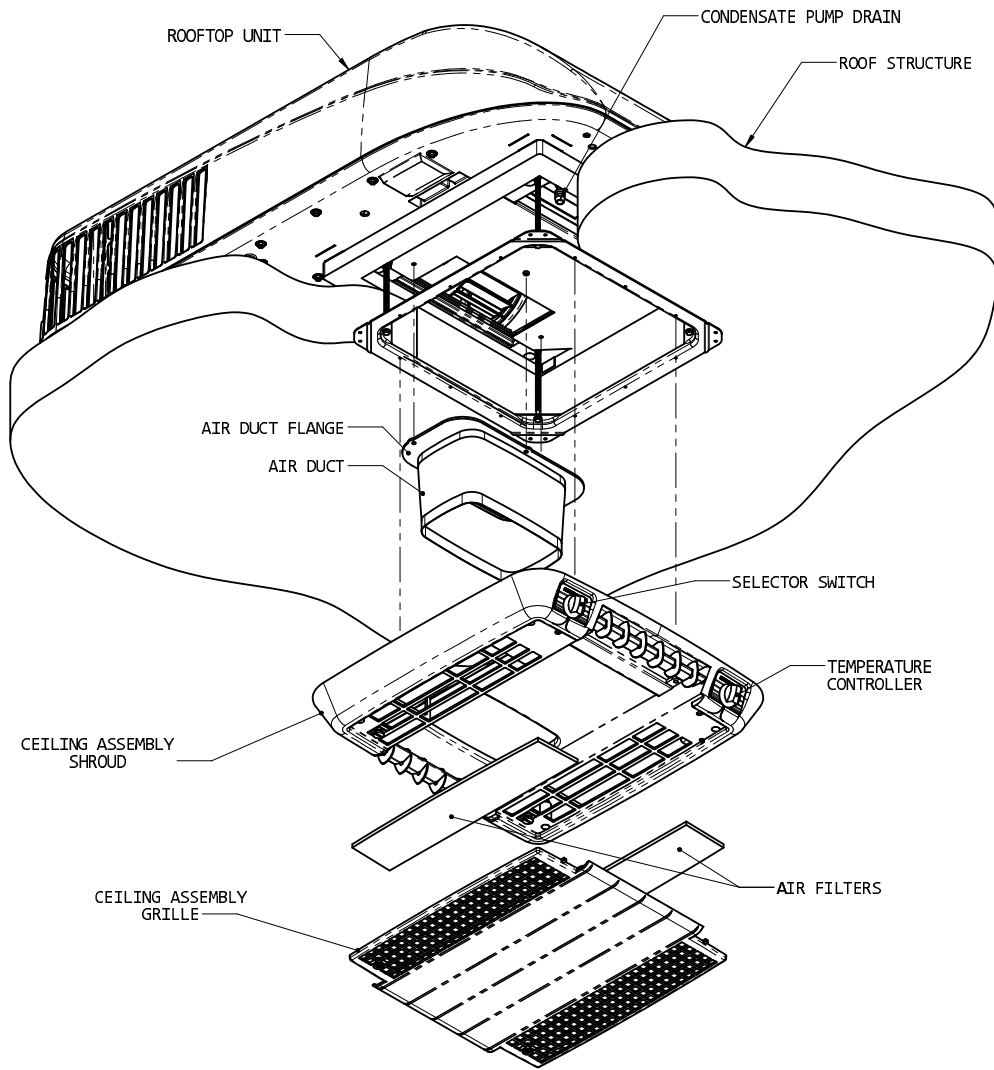

FIGURE 9
- D. Fold and break off the 3 tabs around the inner opening of the duct collar, then fasten the duct collar to the basepan of the air conditioner with three (3) screws (See Figure 9).
I. Raise the ceiling assembly and secure to the mounting frame with 4 provided shoulder screw/spring assemblies. The front two screws should pass through the clearance holes in the metal control box shield (See Figure 9).